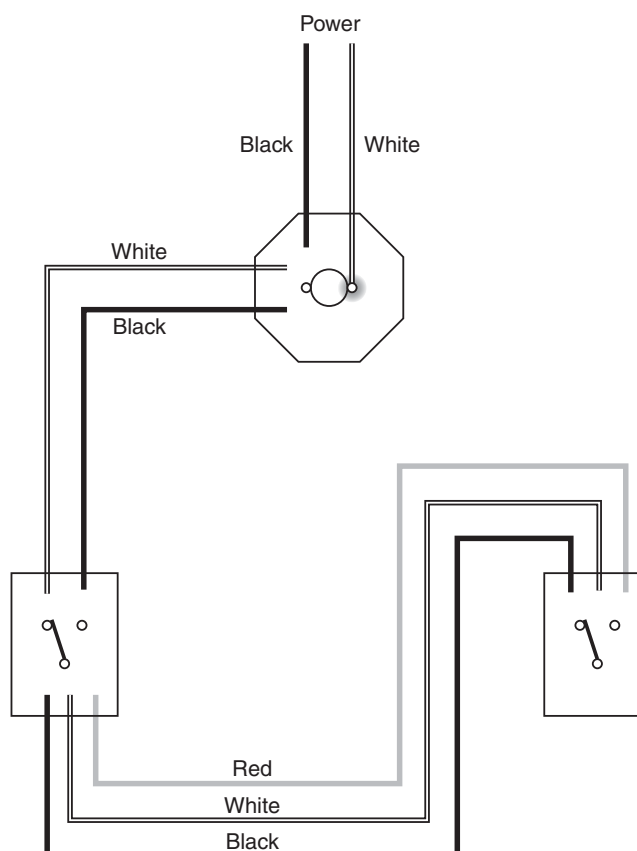

Figure 8-19 The neutral conductor is connected to the light.
1. *Connect the neutral to the light.* The white wire of the power cable is connected directly to the light (Figure 8-19).